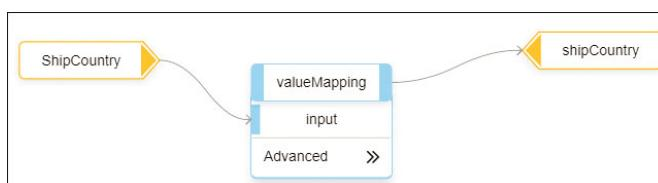

Figure 4.93 Performing a Value Mapping Translation
6. After configuring the value mapping function, place it between the two **ShipCountry** fields to get to the final result, which is similar to Figure 4.93.